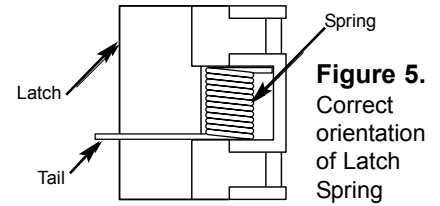

Figure 5. Correct orientation of Latch Spring
The Latch (1) is removed in the following step. Assembly Pin (8) is pushed through Latch to keep Spring (9) in place. If Assembly Pin is not available, use care when removing Latch Pivot Shaft (10) to keep Spring within Latch. If Spring comes out of Latch, reinstall Spring as shown in figure 5.